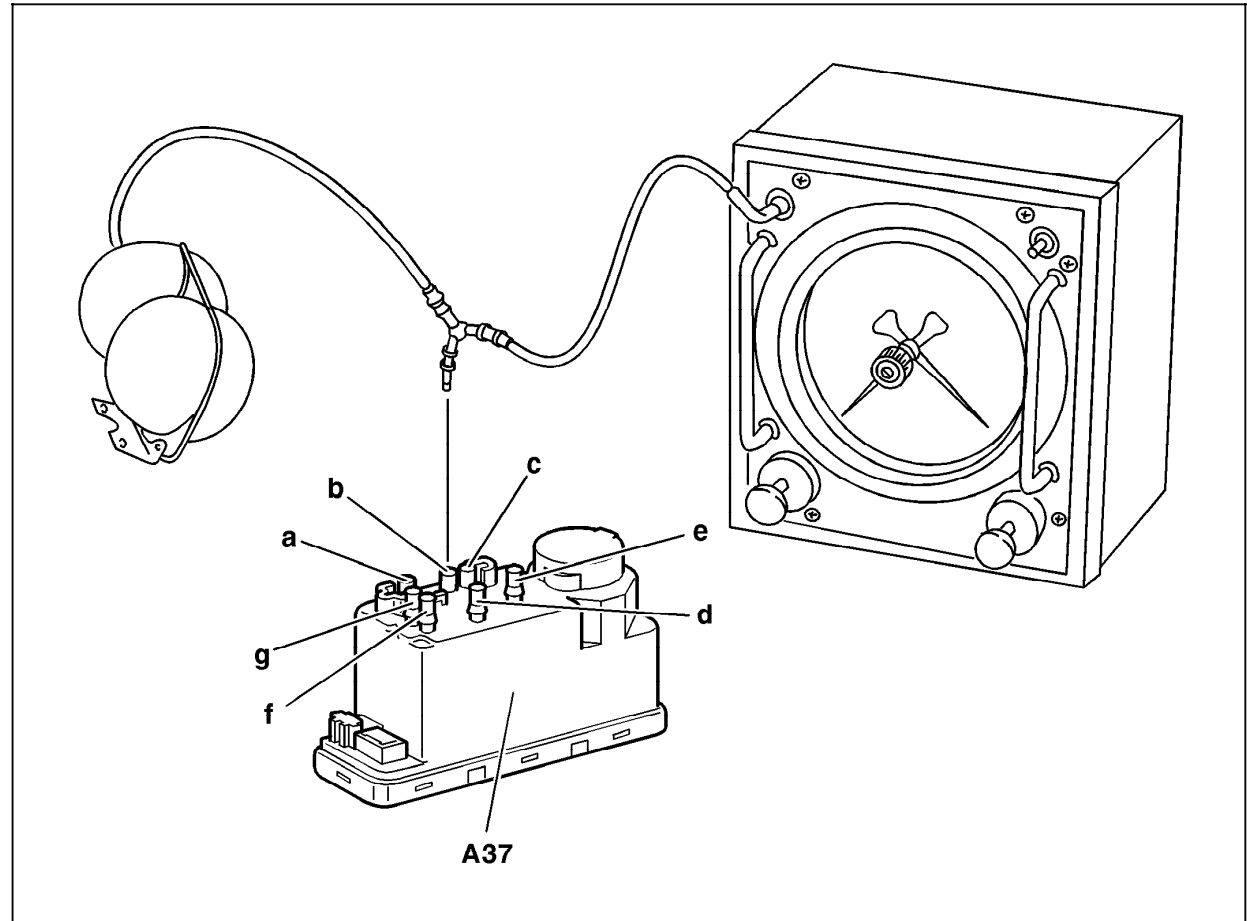

Figure 1
1. Connect vacuum/pressure tester with reservoir to PSE control module (see 32, Figures 1, 2 and 3).